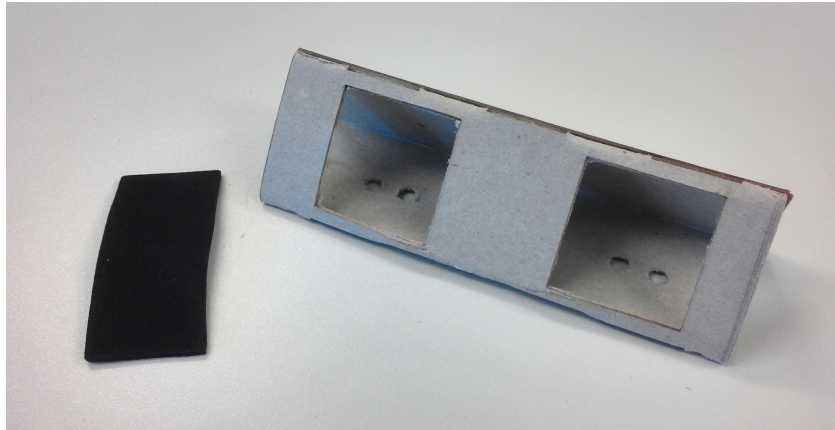
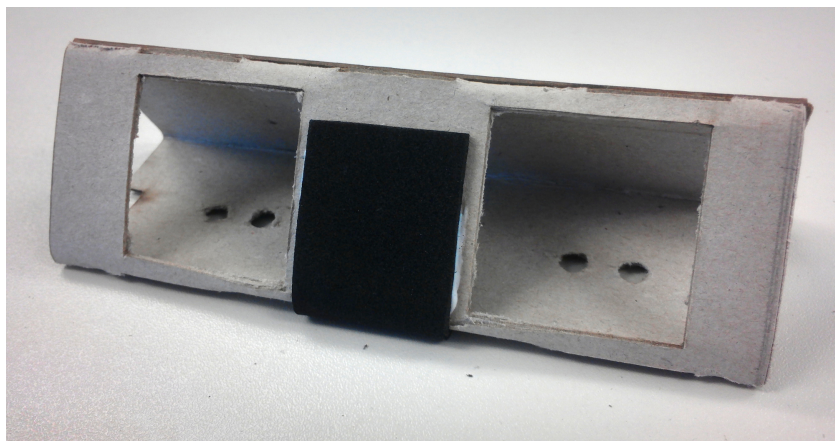

Figure 1.0.23: cut foam rubber as padding for the inside of the cardboard
Figure 1.0.24: foam rubber attached on the cardboard
9. Next, take some more foam rubber and cut out a rectangle (see figure 1.0.23). Glue this rectangle between the squarish apertures of part B as shown in figure 1.0.24.